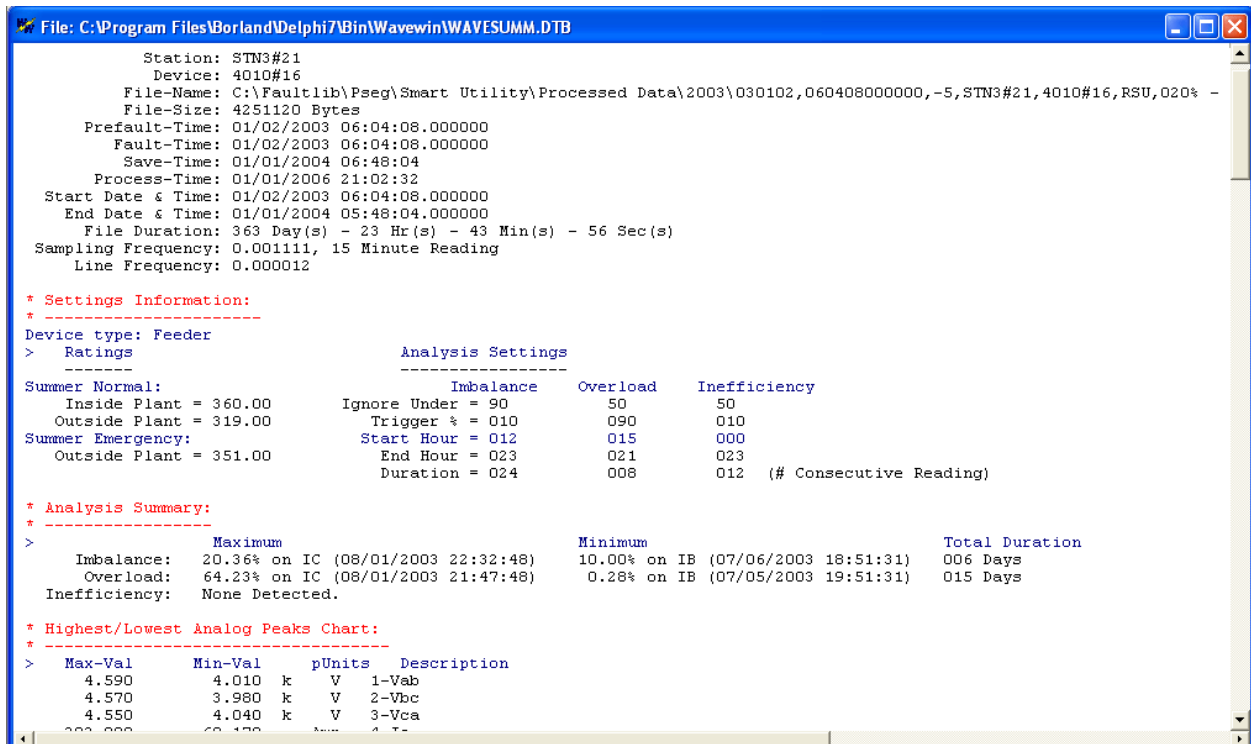

Figure 1.24 Load Device Summary
- **Device Summary** – The device summary files list all the general information for the file, the maximum and minimum values for imbalance, overload & inefficiency, the maximum and minimum values for each analog channel and SOE for the digital channels. Refer to Figure 1.24.